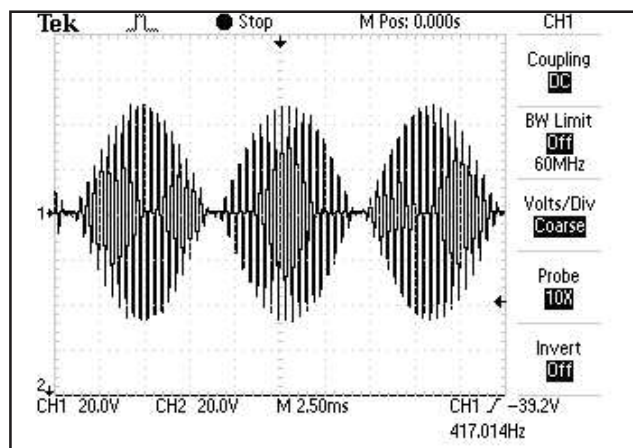

FIGURE 5.7
6. Compare waveform form on scope to **Figure 5.7**.
1. Waveform is the same between scope and **Figure 5.7**.